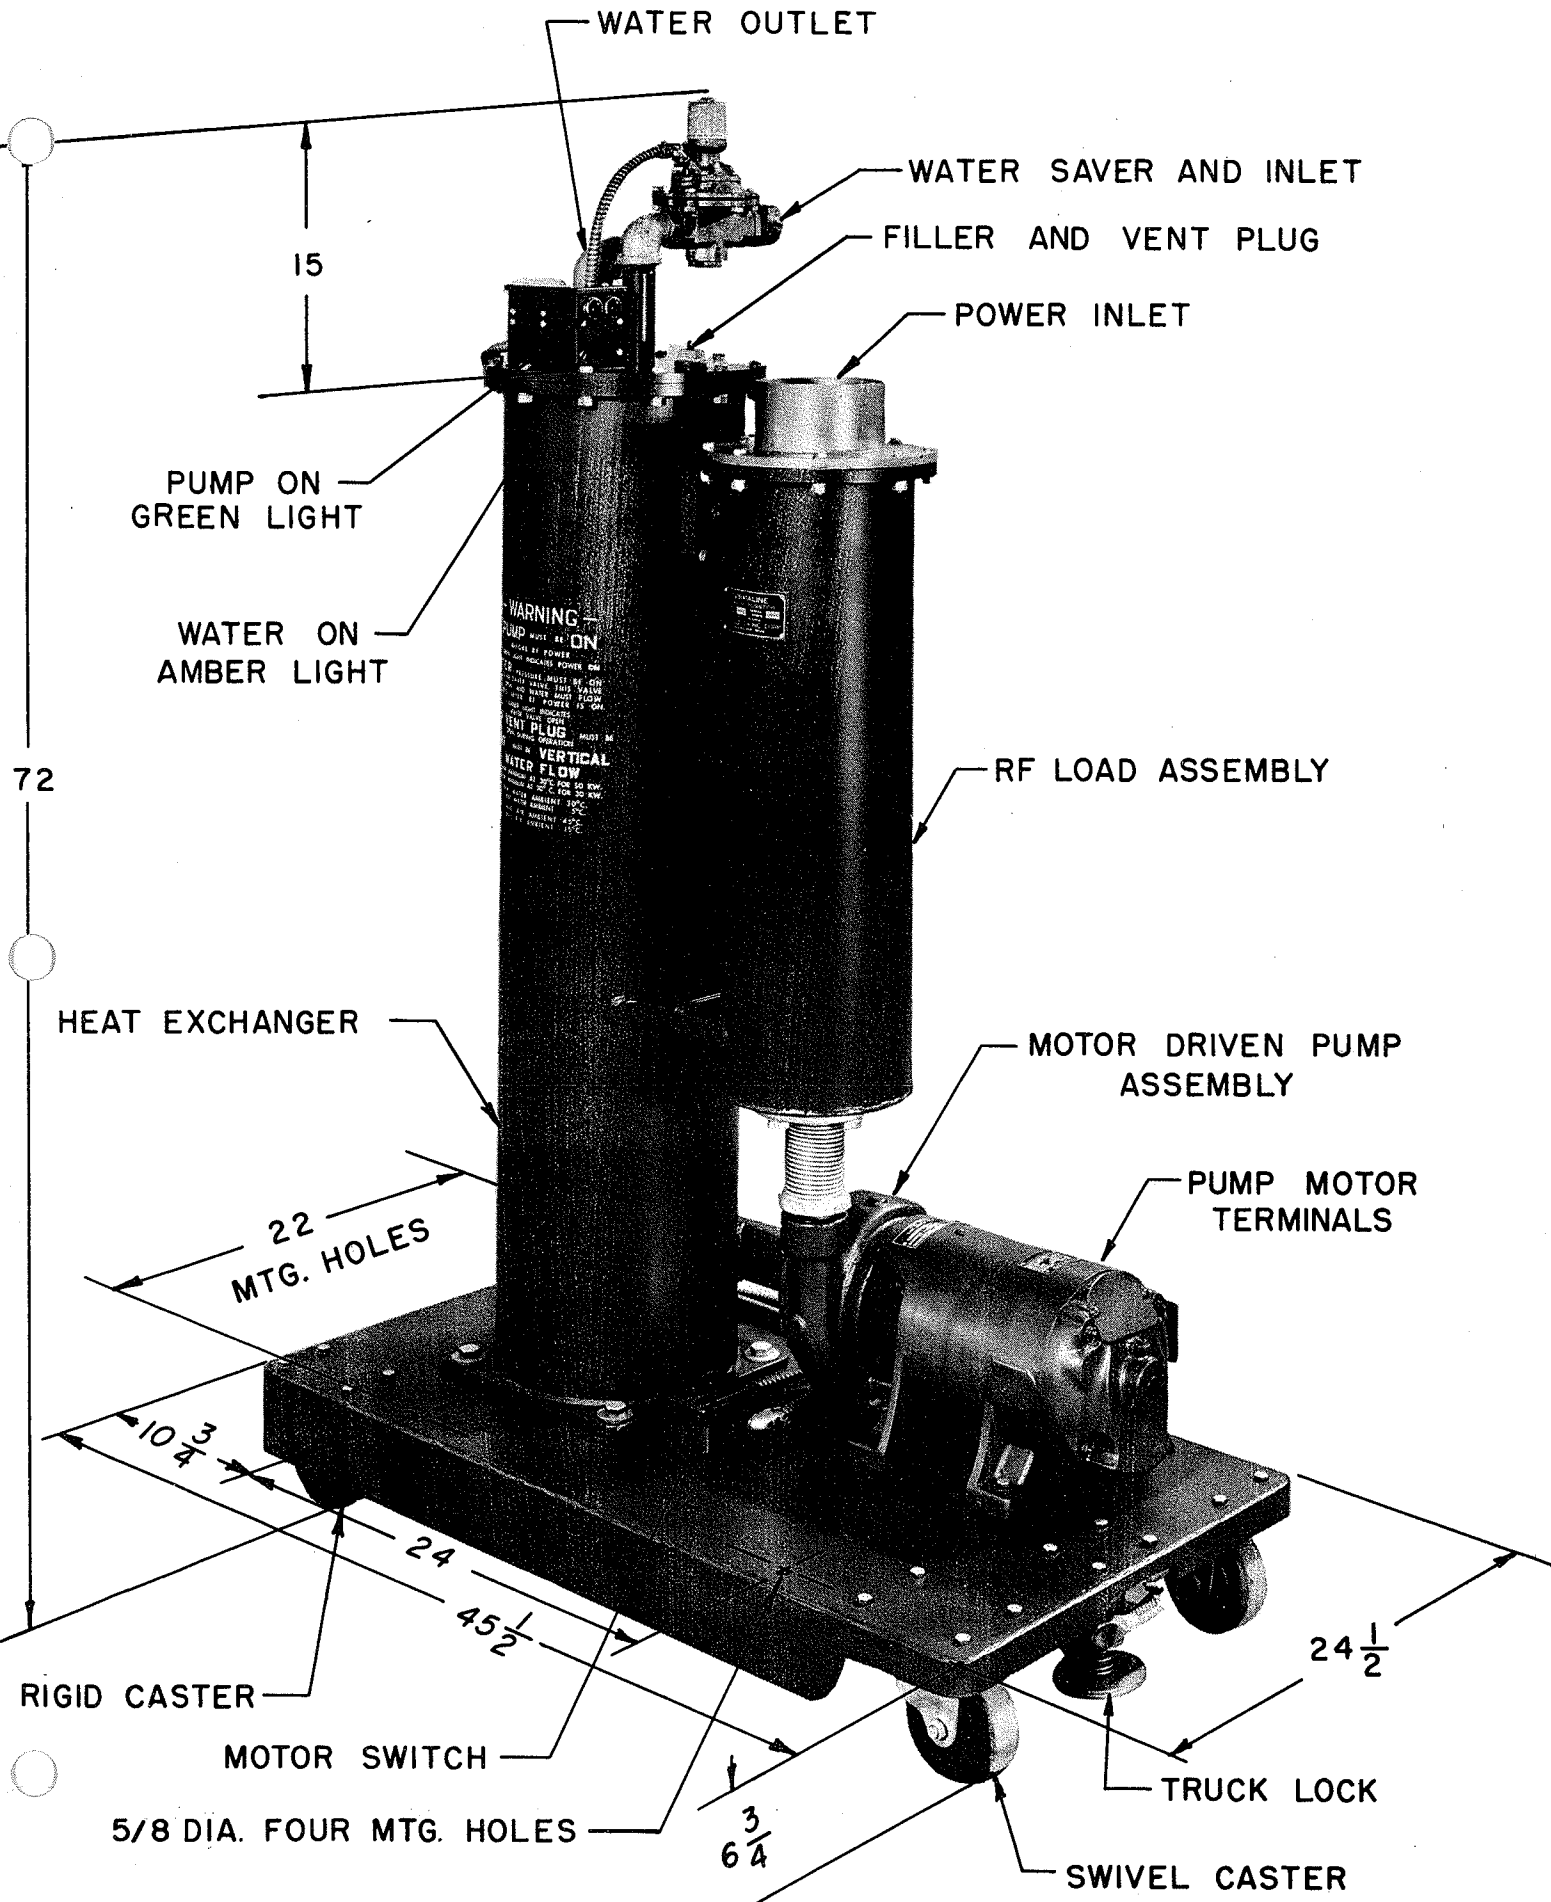
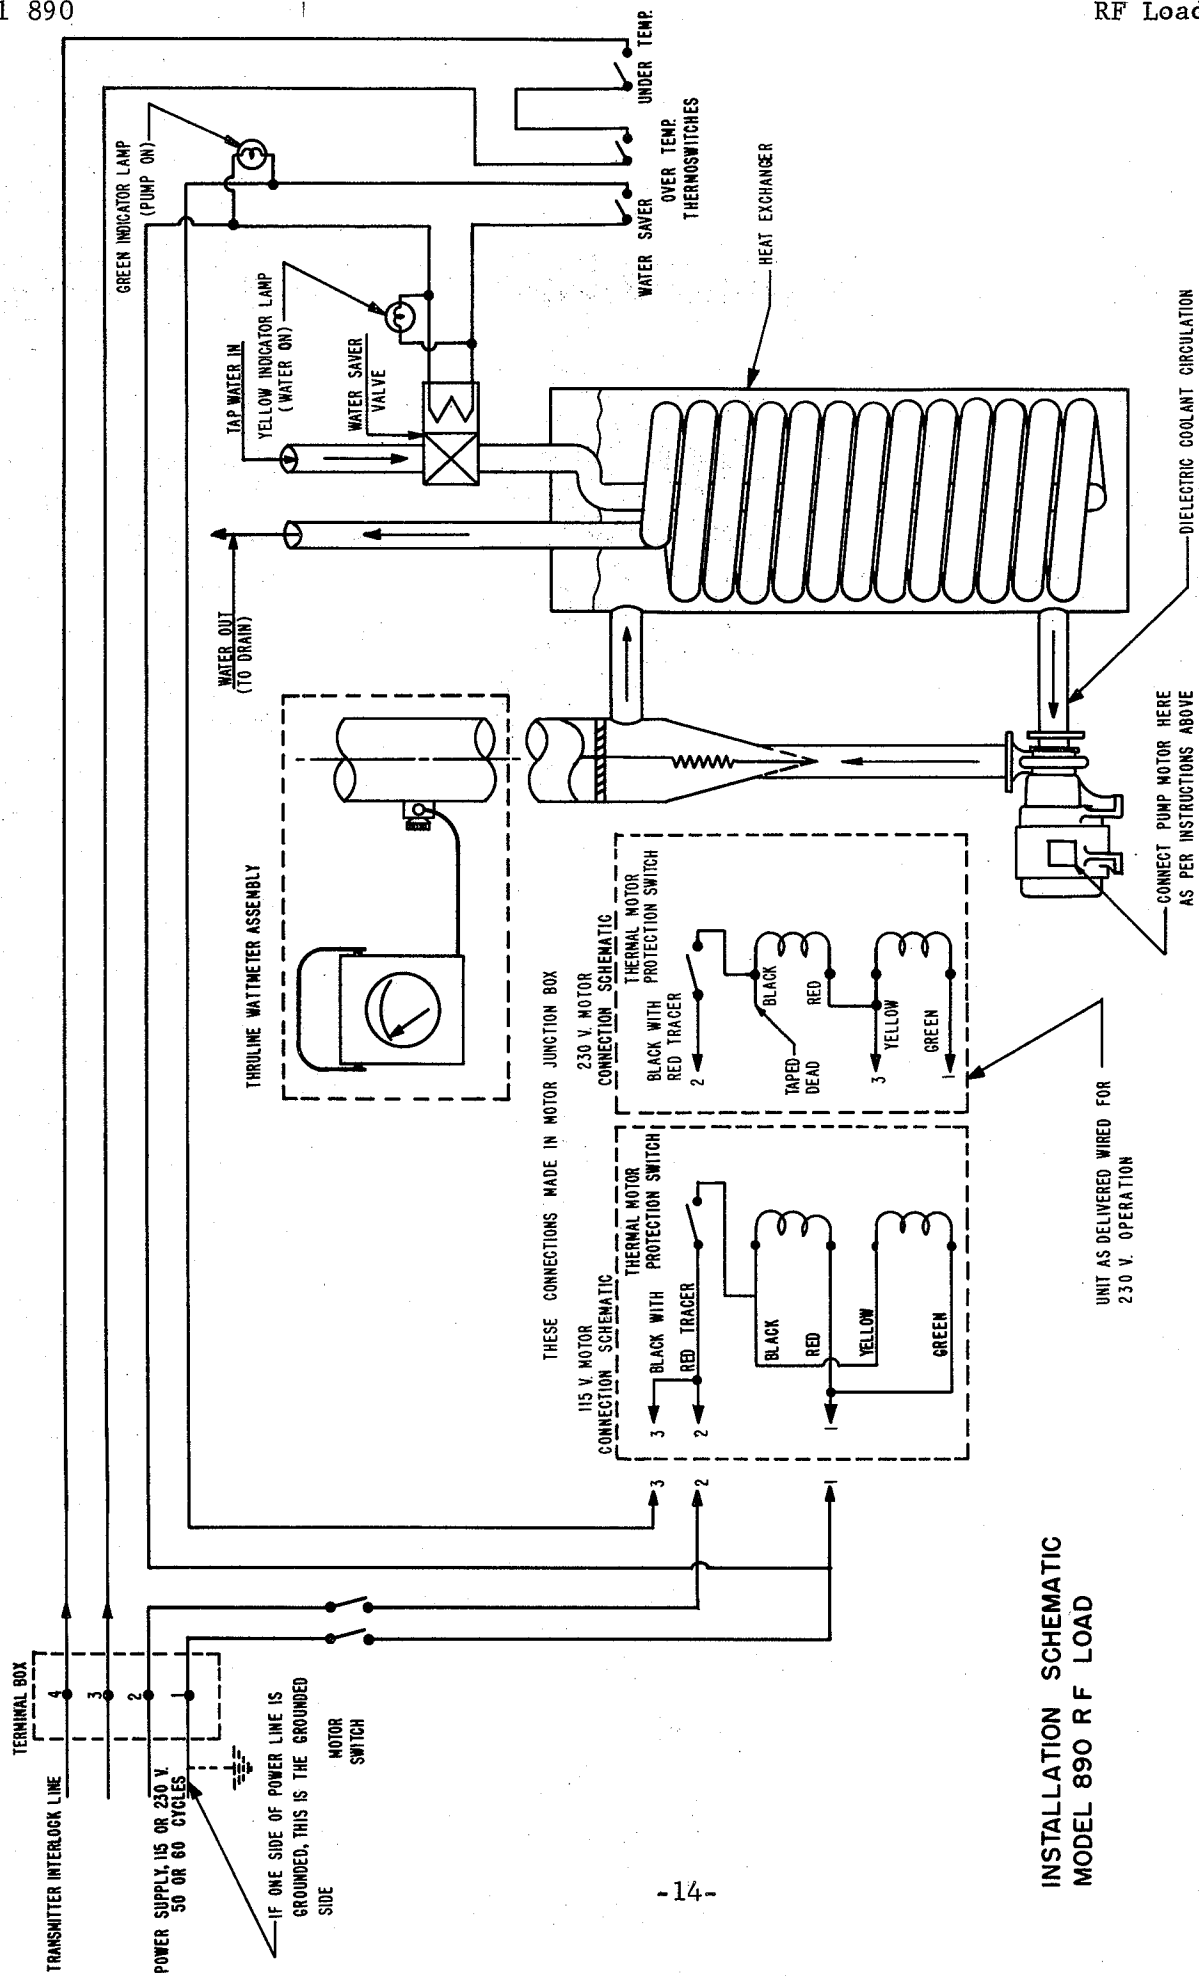

Fig. 1 - Outline Illustration
Fig. 2 Installation Schematic
Dimensions	See Figure 1.
The Bird Electronic Model 890, shown in outline illustration Figure 1, is a termination type Radio Frequency Load for up to 50 Kilowatts of RF Power. The frequency range is from dc to 220 megacycles per second. The load is so designed as to be virtually reflectionless, having less than 1.1 to 1 VSWR in its stated frequency range. The power input is through a 6-1/8 flanged or * unflanged type coaxial line connector with the coupling on the top side of equipment. The rf power is converted to heat in the load resistor, and dissipated by means of a water cooling system.
coolant circuit; see Figure 2, Installation Schematic. The smaller cylinder contains the load resistor, while the larger one contains the water conducting cooling coils which are also immersed in the circulating dielectric coolant.
Refer to the outline drawing Figure 1 and the installation schematic Figure 2 and proceed as follows:
- b. (1) Connect 230 volts or 115 volt 60-cycle power supply to terminals 1 and 2.
- c. (2) The 890 equipment is normally furnished with the pump motor wired for 230-volt supply. For 115-volt operation, follow the installation schematic drawing Figure 2, remove motor junction box cover where shown and re-wire the connections as designated by color codes. Tape all joints safely and restore junction box cover.
CAUTION - be sure to DISCONNECT the 230-115 volt POWER SUPPLY and the transmitter INTERLOCK LINES, i.e. all four wires to the terminal box should be disconnected, before attempting any maintenance work on electrically wired components throughout the Model 890. Terminal box (See Section III) is on the dolly opposite motor switch, with four 10-32 x 3/8 screws on lid. For access to motor terminals, remove cover plate (two screws) on right side of end cap - opposite data plate. The procedures for replacing all of the wired installations here is normal for any electrical equipment of this voltage. Follow wiring diagram in Schematic Installation, Figure 2, for any required information.